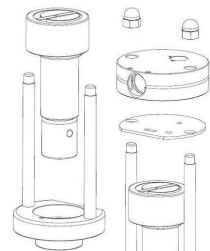

fig. 22
- Put-on the steering disc (check fixation!) and then valve head. (fig. 22)